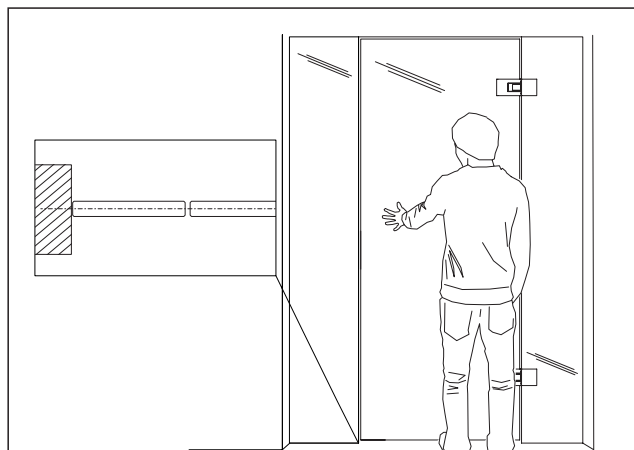

Fig. 34 Ideal "0" position from the glass door leaf to the side panel
2. Bring the glass door leaf to the ideal "0" position (Fig. 34).